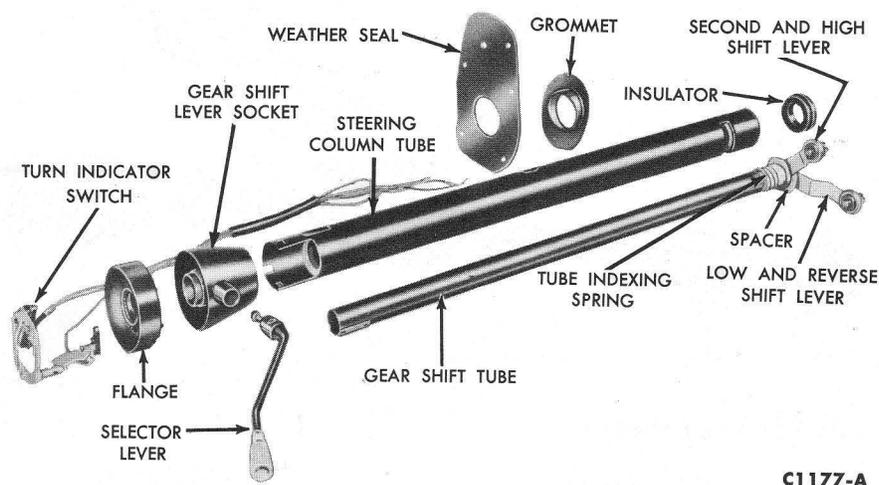

FIG. 14—Steering and Shift Tubes
4. Loosen the flange retaining nuts until pressure on the nuts (toward the column center) will disengage the bolt heads. Remove the flange (Fig. 14).